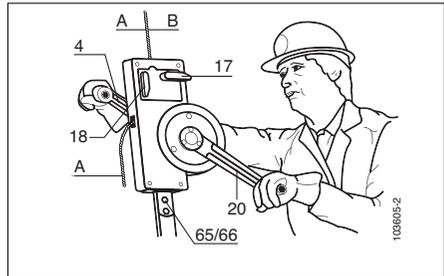

Fig. 2
Position the scafoTM on the stirrup with the rounded side of the casing facing the operator, as in fig. 2. Fix it with the two anchor pins (65) and tighten the nuts (66).